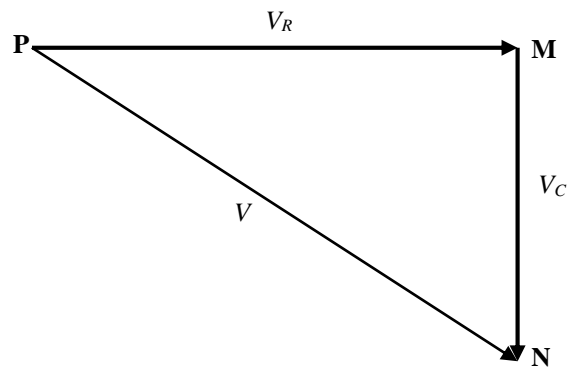

Figure 5.3.
4. Draw the triangle shown in Fig.5.3.